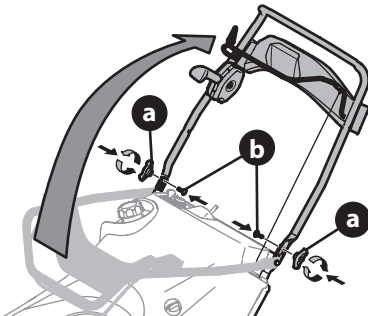

Figure 2
2. Pivot the upper handle into the operating position. Be sure not to pinch any of the cables in the process (Figure 2).